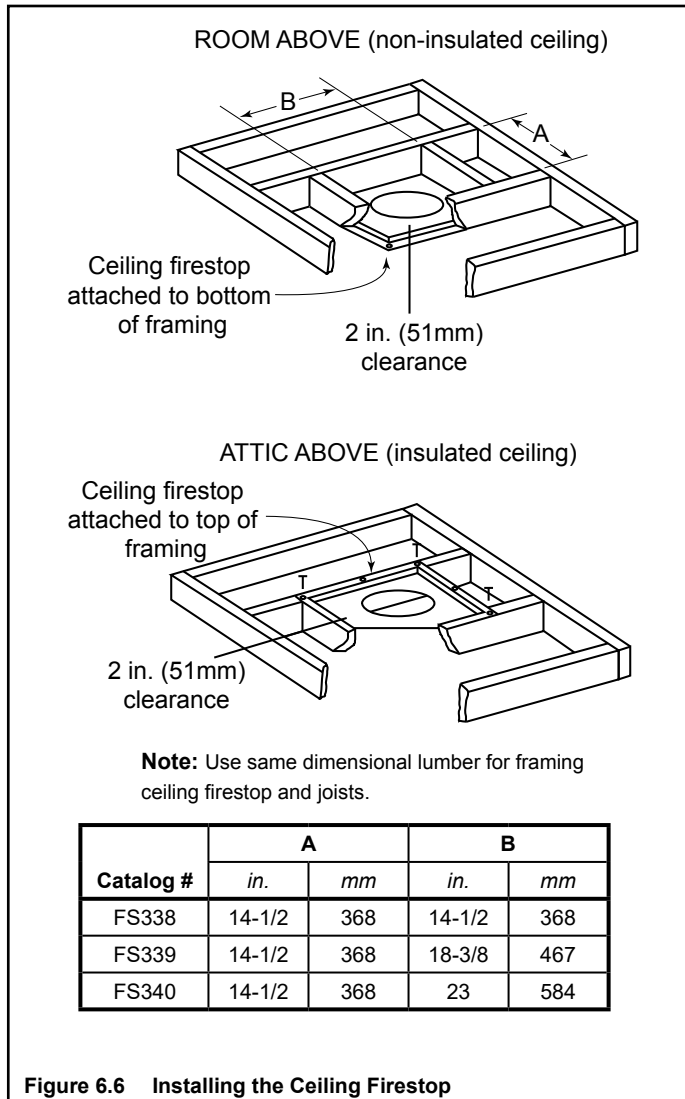

Figure 6.6 Installing the Ceiling Firestop
- Mark and cut an opening in ceiling/floor as shown in Figure 6.6.
- Refer to Figures 6.6, 6.7, 6.8 and 6.9.